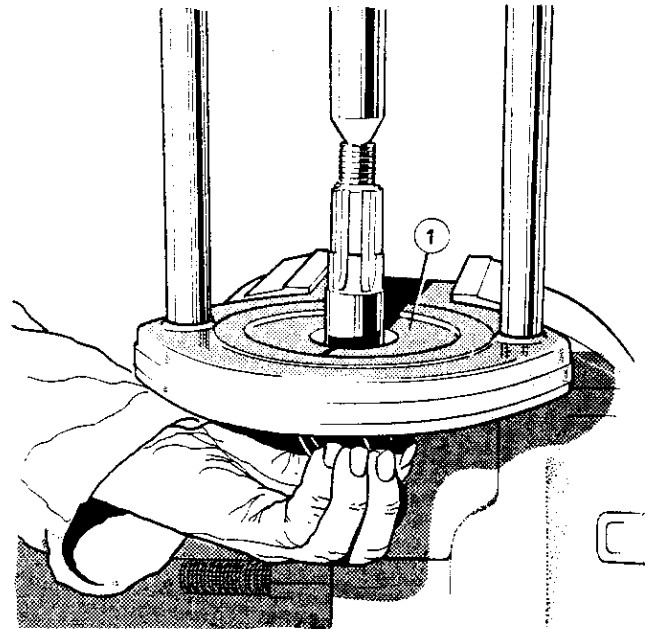

Figure 8 Removal of pinion bearing using collars and hand press
11. The half shaft is removed by using a slide hammer part No. RT 3072 and adapter RT 3072-2. Fit the adapter on to the slide hammer and screw on to the half shaft. Sliding the hammer away from the axle will release the half shaft from the axle and the shaft, complete with slide hammer, can be withdrawn from the axle tube as shown in **Figure 8**
8. Using hand press tool No. 47 and pinion bearing remover tool RT 8765, follow the same procedure as the differential unit and remove the pinion bearing. (Figure 8). Note the value of the spacing washer thickness next to the pinion head plus any additional shims.